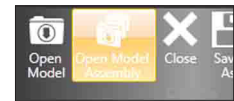

Fig. 72
- Select the Open Model Assembly. (Fig. 72)